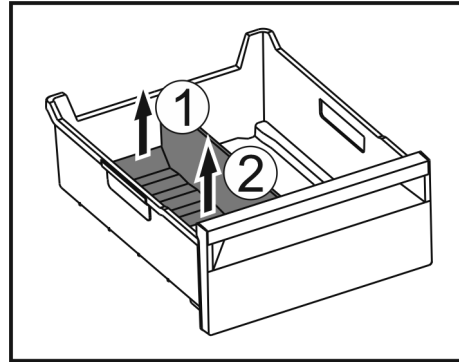

Fig. 127
- ▶ Lift the rear part of the ice compartment divider. Fig. 127 (1)
- ▶ Remove the ice compartment divider upwards. Fig. 127 (2)